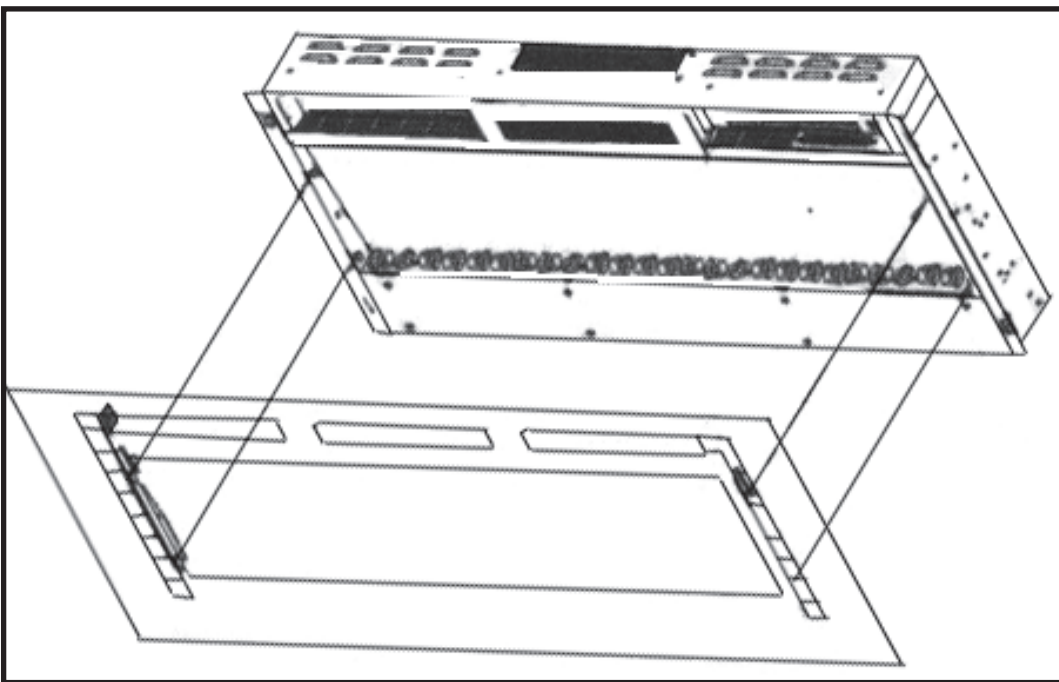

Fig. 6
- Place the front glass over the front of the fire aligning the slots in the bracket at each side of the glass panel with the lugs on the sides of the fire. Two people are required for this operatin. See Fig. 6
- Fix the tempered glass with 2 pieces of 4x4*8mm screws provided. See Fig. 6